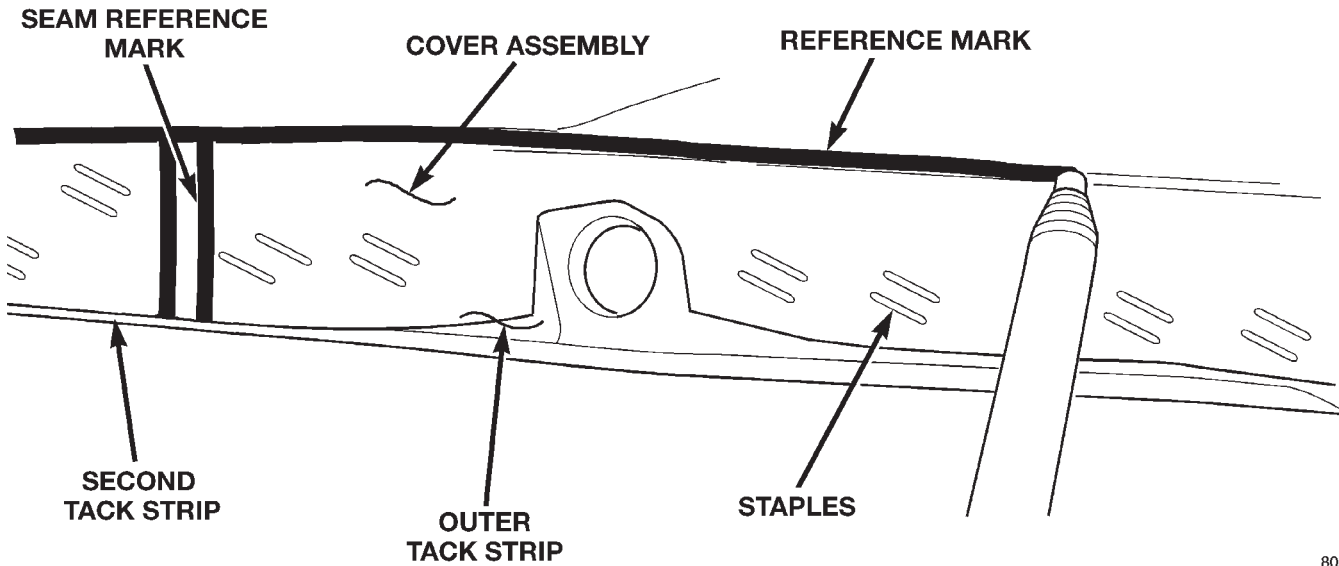

Fig. 1 Sail Panel Reference Marks
- (8) Disengage elastic strap from the third roof bow, if equipped.
- (9) Remove antenna mast.
- (10) Place protective padding over the entire rear deck area to protect paint. Move tack strips to top of deck opening onto protective padding.
- (11) Mark the outer sail panels along the top edges and down the seams between the outer and second tack strips from the outside of top (Fig. 1).